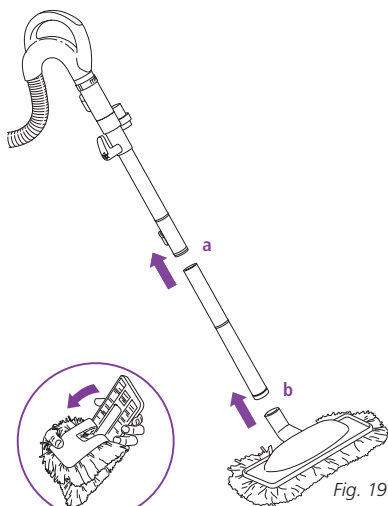

Fig. 20
- 4 Attach/remove the micro-fiber pad. (Fig. 20)